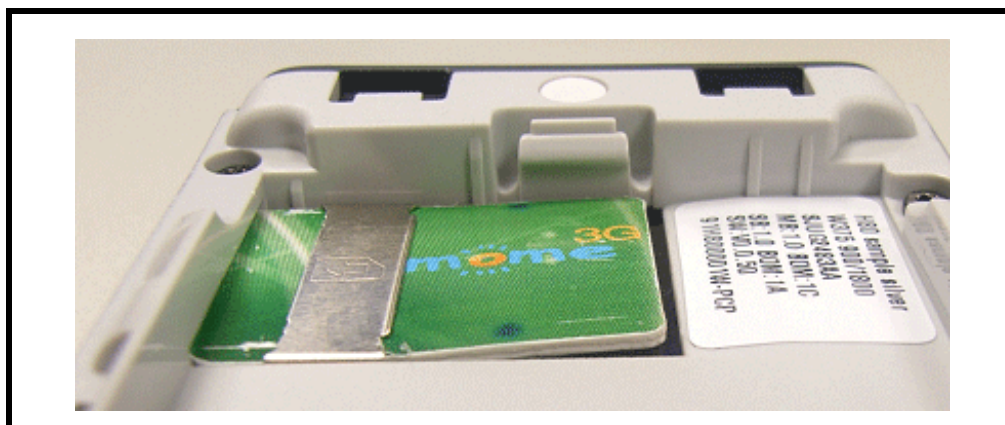

Figure 42.
1. In the event the SIM Card warps after being inserted. (shown as Figure 42 below)